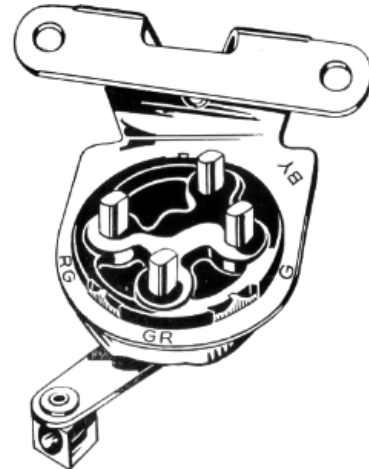
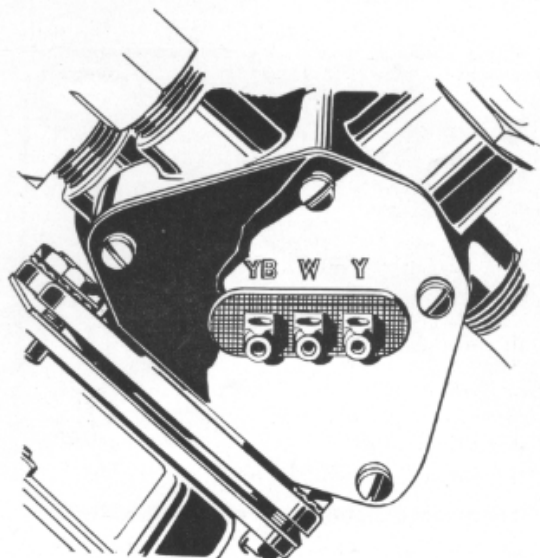

Figure 24
Figure 25
65. Disconnect the upper and lower harness connector jack (23).
67. Remove the four wires from the interlock switch. See Figure 24 for wire color code for proper connections to interlock switch.
68. Remove the four cap screws from the contact plate cover (26).
70. Remove the three wires from the selector valve terminal block. See Figure 25 for wire color code for proper connections to terminal block.
90. Place power unit stud spacer (31) on stud with sleeve to rear.
91. Put power unit in place in bracket and put rubber washer (32) and nut (30) on mounting stud.
95. Insert three wires from lower harness into proper posts of terminal block as indicated by wire color code. (See Figure 25.)